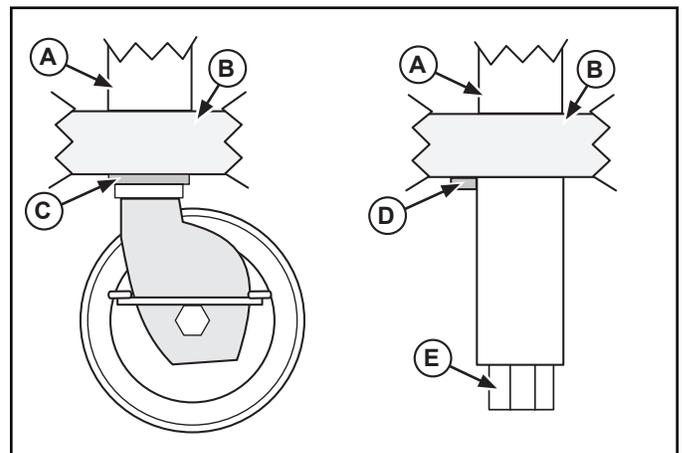

Figure 2. Shelf, Leg, Caster Wheel and Adjustable Feet.
4. Slide the shelf (B) to the top of the caster (C) or to the weld stud (D) See Figure 2. Repeat for all the legs.
- Stationary stands: Place the stand into the desired location. Use the adjustable feet (E) to level the stand. See Figure 2.